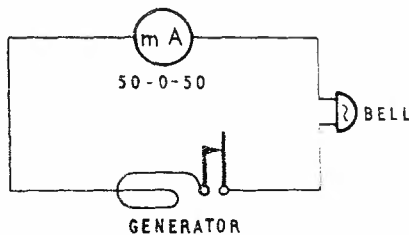

FIG. 2.
STEP 6. Connect the circuit as shown in Fig. 2.